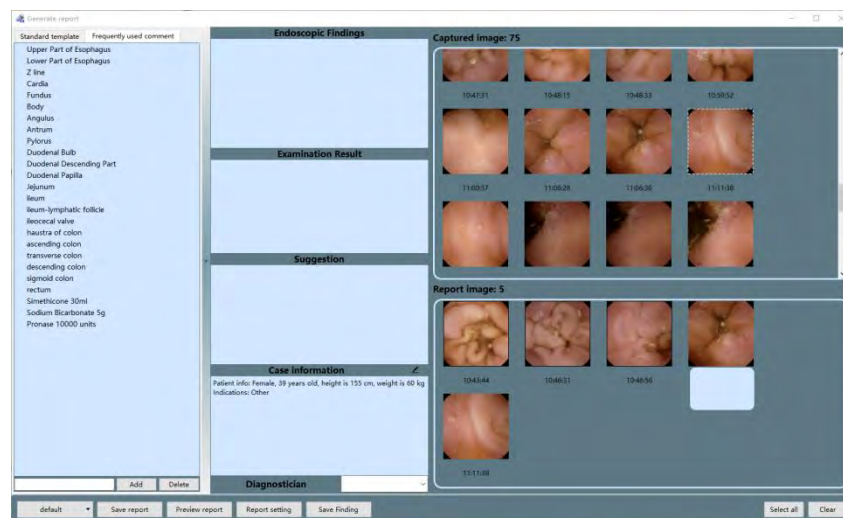

Figure 4-54: Edit Report Image Comment
3. Move the mouse over the timestamp of an image and double click the left mouse button to edit image comment in the text box below the image (Figure 4-54).